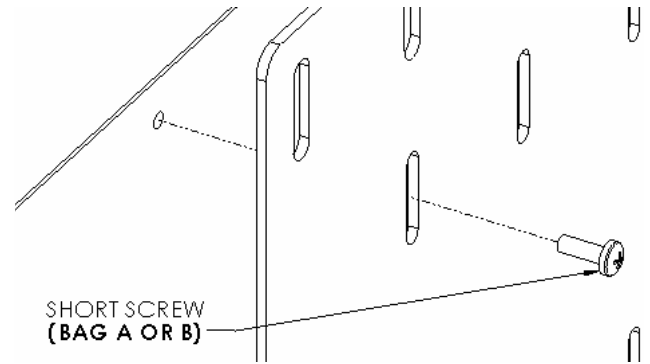
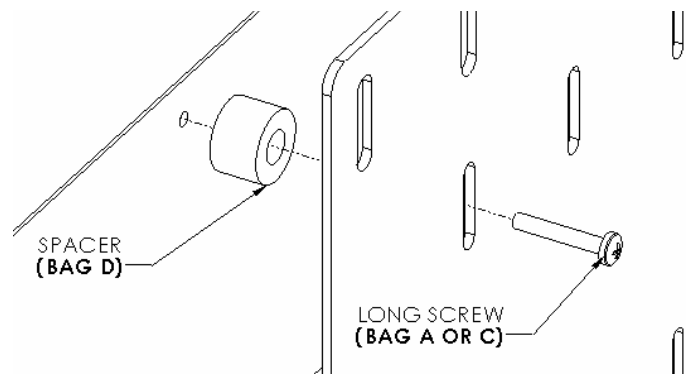

Figure 3. For a Display without a Recess or Protrusion
Figure 4. For a Display with a Recess or Protrusion
- Spacers from Bag D (see Figure 4) may be needed if mounting holes of display are recessed or if screen has a protrusion that would require the MSP-MSBTW1 interface to be spaced away from the back of the display.
- Select screws from Bag A or B (see Figure 3), or Bag A or C (see Figure 4) if mounting holes of display are recessed or if screen has a protrusion that would require the MSP-MSBTW1 interface to be spaced away from the back of the display.
2. Perform the appropriate procedure, *as described in the following sections*, to attach the MSP-MSBTW1 (10) to back of display.